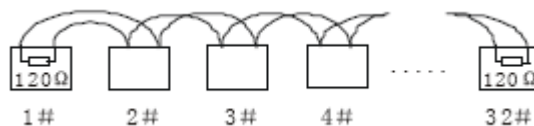

Figure 7-1
1) RS485 bus requires all devices use the following connection methods. Both terminals shall have  $120\ \Omega$  resistance. See Figure 7-1.